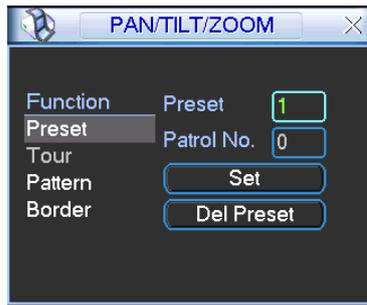

Figure 4-39
In Figure 4-36, please click the “set” button. The interface is shown as below. See Figure 4-39. Here you can set the following items:
- The following setups are usually operated in the Figure 4-36, Figure 4-39 and Figure 4-40.
In Figure 4-39, click preset button and input preset number. The interface is shown as in Figure 4-41.
In Figure 4-39, input patrol (tour) number in the No. blank and click patrol button
In Figure 4-39, click pattern button and then click “begin” button. The interface is shown as in Figure 4-43. Then you can go to Figure 4-36 X to modify zoom, focus, and iris.
In Figure 4-39, input mode value in the No. blank, and click pattern button.